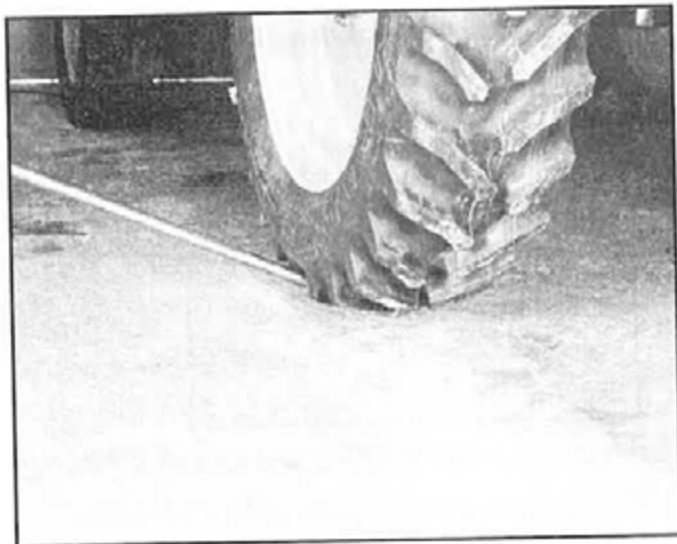

FIG 4.3
6. To adjust the tread out, place a suitable prying tool under the center of the tire and pry out at the same time that you push out at the top of the leg (fig. 4.3). Carefully lower the sprayer to the ground which, in turn will allow the leg to slide outward. Repeat the procedure until the desired tread is obtained.